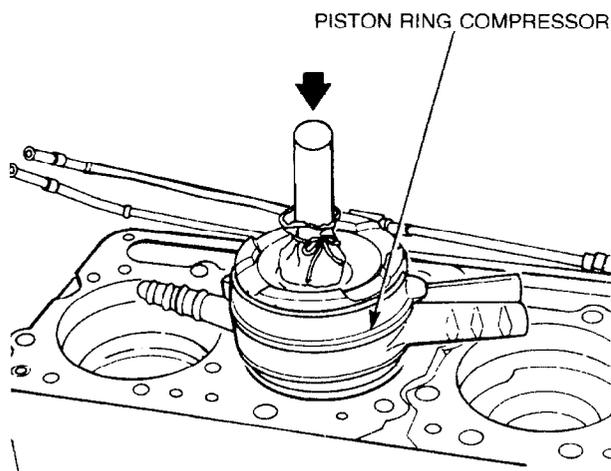

Figure 50 — Piston Assembly — Installation
- ao. Position the piston over the cylinder (as numbered) with the connecting rod bearing tang toward the camshaft side of the engine, then push on the piston crown using a blunt wooden implement (not metal) to move the piston into the cylinder liner (see Fig. 50).